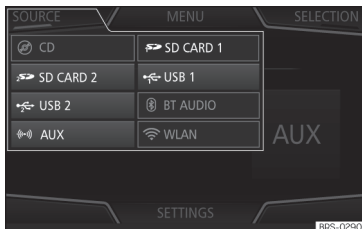

Fig. 170 MEDIA mode: switching media source.
- From the *Media* main menu, press the **SOURCE** function button **>>> Fig. 170** and select the desired media source.